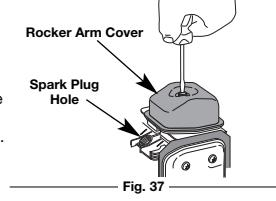

Fig. 37
- 5. Clean dirt from around the rocker arm cover. Remove the screw holding the rocker arm cover with a large flat blade screwdriver or T-25 bit (Fig. 37). Remove the rocker arm cover and gasket.
- The piston is at the top of its travel while looking in the spark plug hole (Fig. 37).